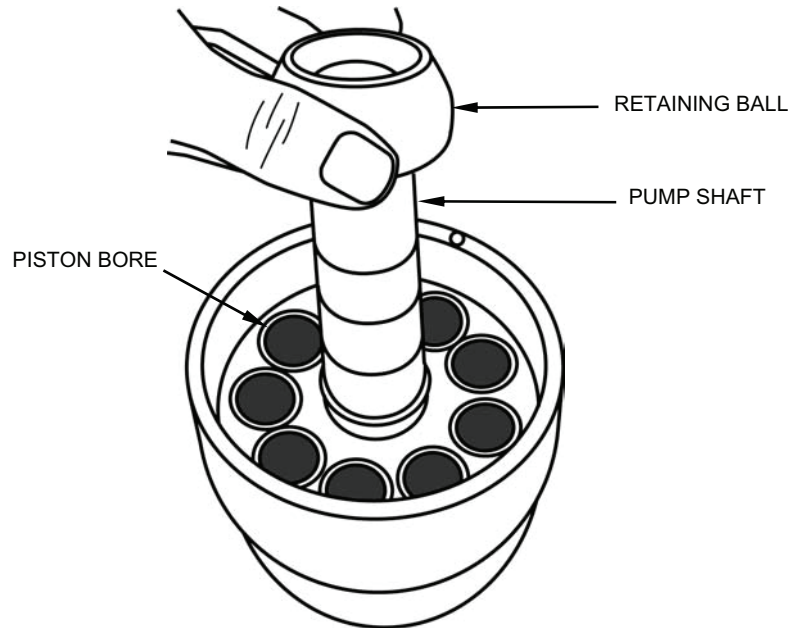

Figure 27. Removing Retaining Ball from Pump Shaft.
- p. Lift the retaining ball off the pump shaft (see Figure 27).